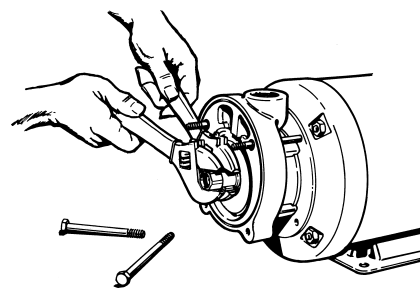

Figure 4-17
- n. Place a second crescent wrench over the nut and tighten in a clockwise direction until it is secured. Refer to Figure 4-17.
6. Place the cover over the studs and install the two (2) 3/8" nuts and two (2) 3/8"x4" bolts. Tighten the nuts and bolts, systematically alternating diagonally across the cover. Do not over-tighten the nuts and bolts; final adjustment will be made after the unit is in operation.